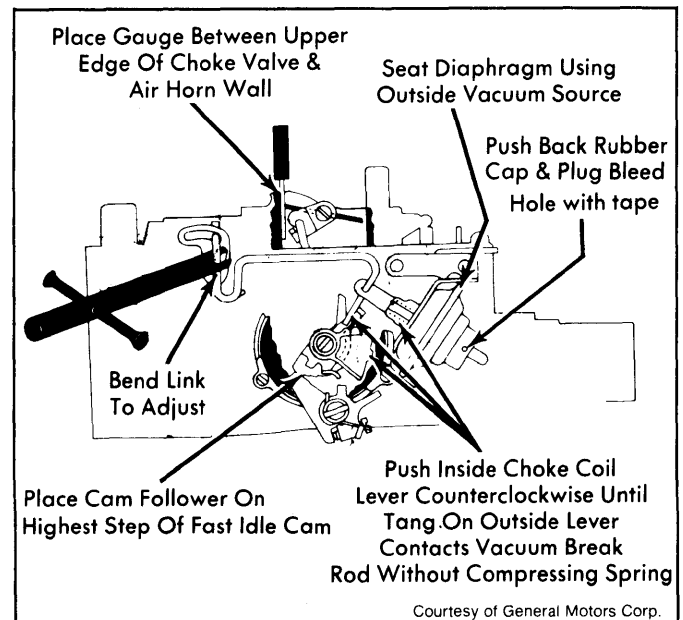

Fig. 12: Adjusting 2MC Vacuum Break (Lean Setting)
3) Insert specified gauge between upper edge of choke plate and air horn wall. If necessary, bend link rod to adjust. See Fig. 12.